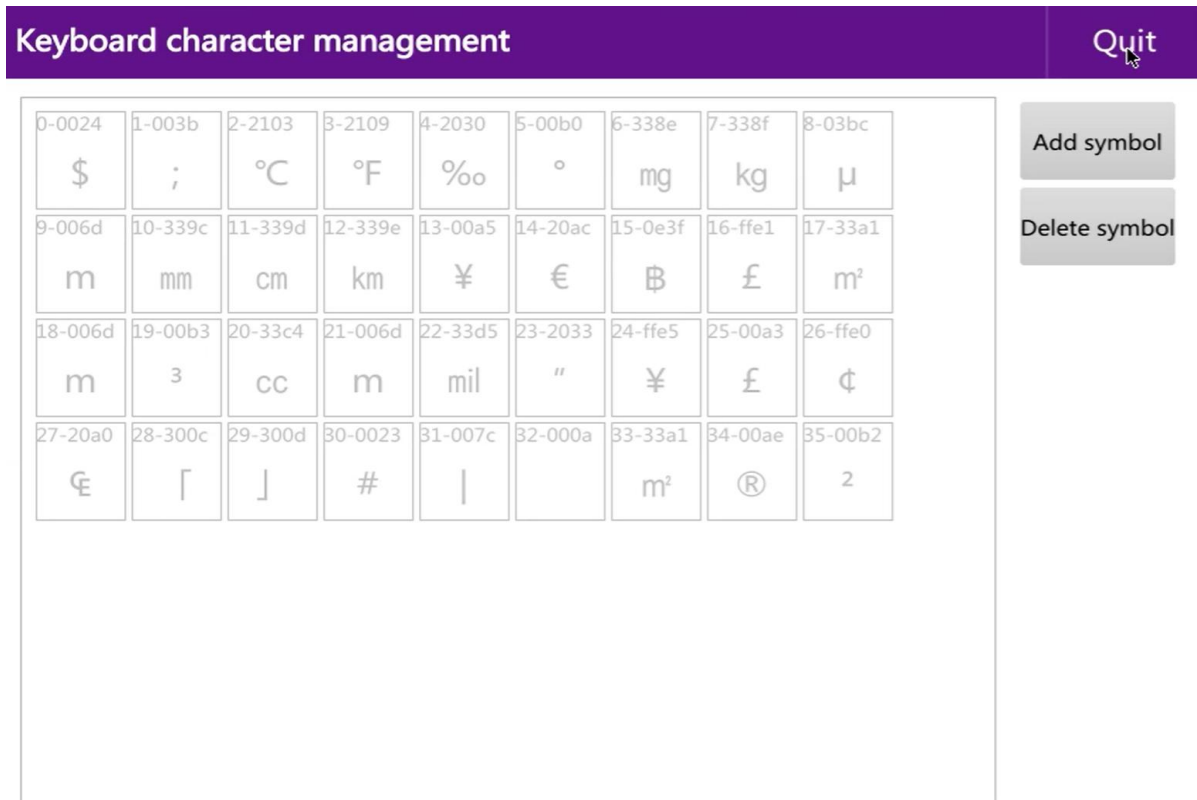

图 4-26
**Keyboard characters:**To add symbols that are not in the existing keyboard, click Settings to enter the keyboard character management interface, as shown in Figure 4-24, click Add Character, Jinfu Unicode encoding interface, each character has its specific Unicode encoding, available online Find or find in Word. Example: Add the symbol ®, the corresponding Unicode code is 00AE, click 00AE on the interface, as shown in Figure 4-25, click Add, the symbol will be added to the keyboard character management interface, as shown in Figure 4-26, After the addition is complete, you can see the changed characters on the keyboard of the edited content, click the More button on the keyboard, as shown in Figure 4-27.